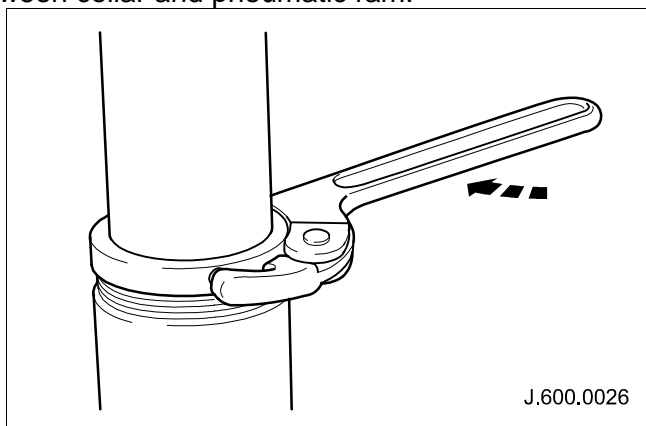

Fig. 3
- 8 Undo Nike Lift piston body flange nut using special tool (supplied in kit) and suitable mallet. (See Fig.3)